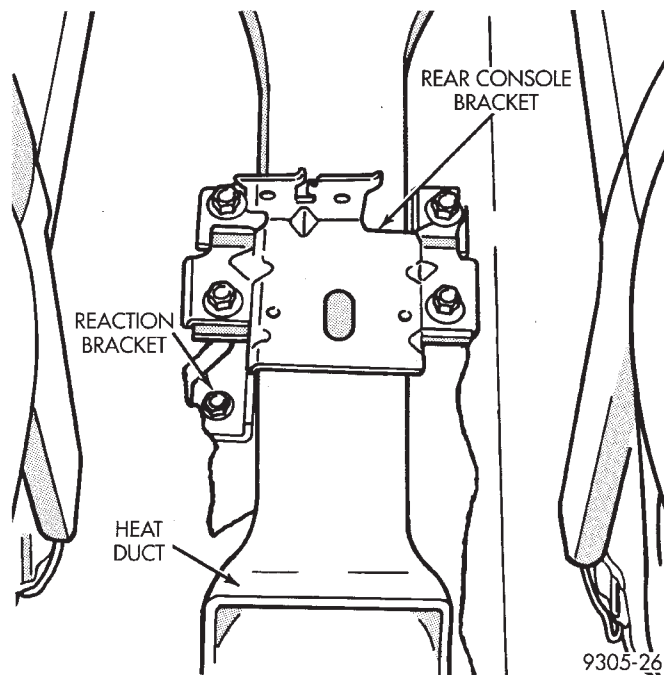

Fig. 131 Console Mounting Bracket And Heat Duct
(12) Remove rear console mounting bracket (Fig. 131) from park brake cable reaction bracket. Remove rear passenger compartment heat duct (Fig. 131) from vehicle, for access to park brake cables.